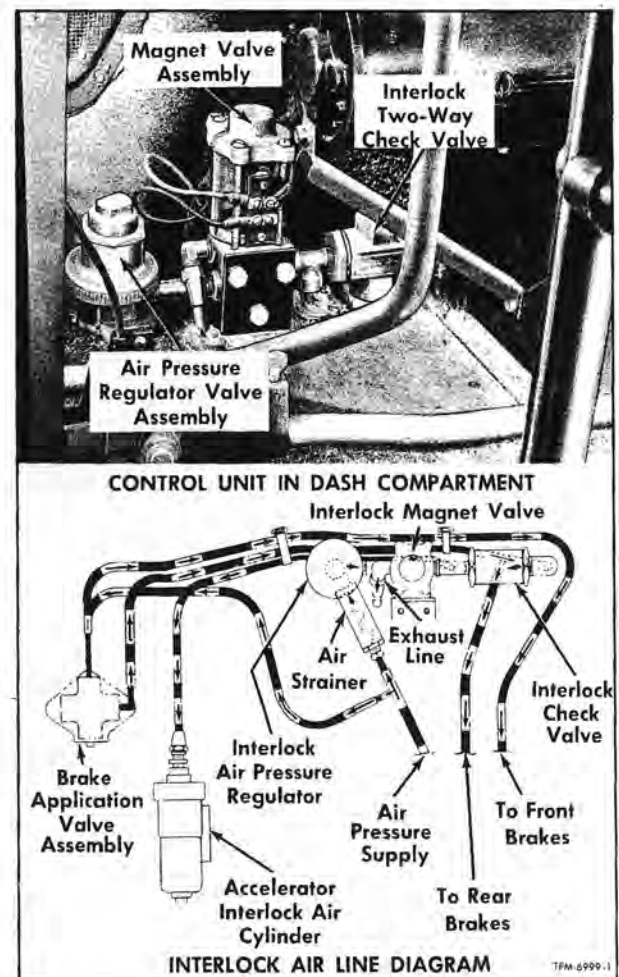
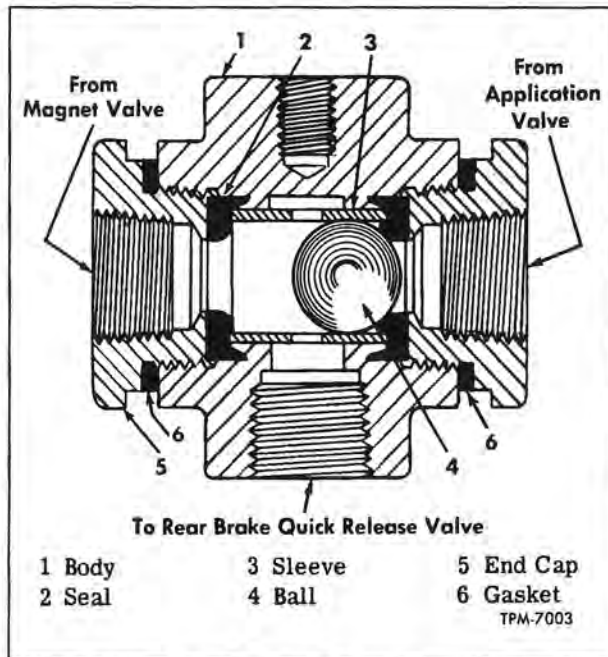
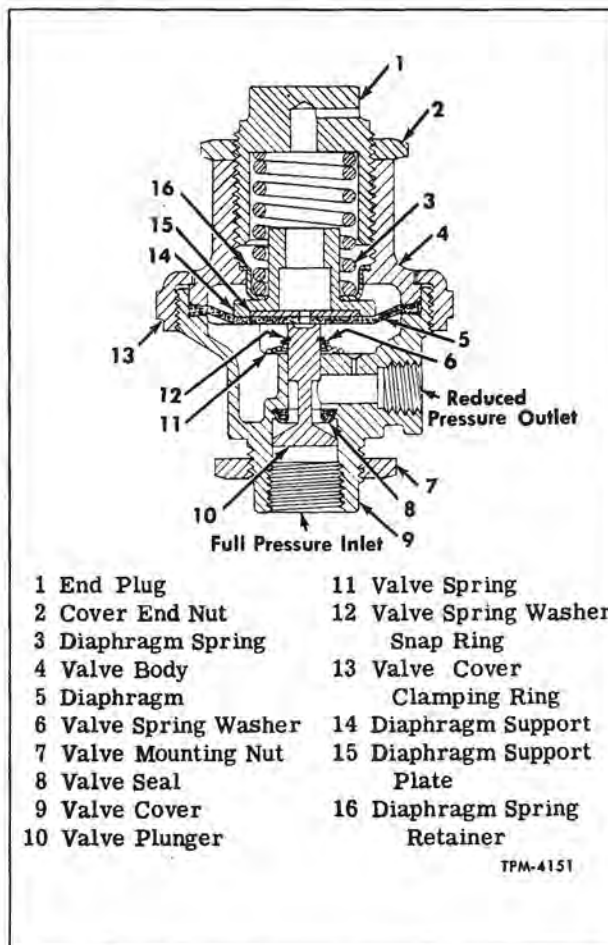
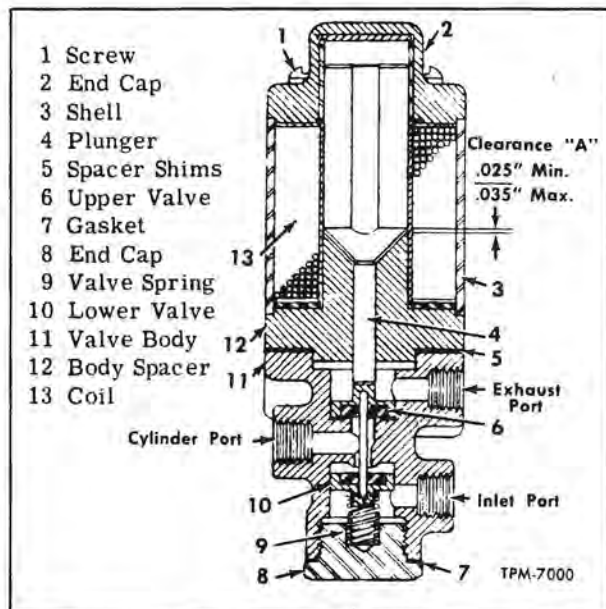

Figure 14—Brake Interlock Mechanism and Air Lines
Figure 15—Brake Interlock Double Check Valve
Figure 16—Brake Interlock Air Pressure Regulator Valve
Figure 17—Brake Interlock Magnetic Air Valve
The brake interlock consists of door switches and wiring, air strainer, pressure regulating valve, interlock magnet valve, and double check valve (fig. 14).
Brake interlock double check valve (fig. 15) is installed in air system as shown in figures 25, 26, and 27. Purpose of valve is to direct flow of air pressure from either brake application valve or brake interlock magnet valve into air line leading to rear brake valve. Figure 14 shows valve installed in dash compartment.
### OPERATION (Fig. 15)
### TEST (Fig. 15)
**DOORS AND CONTROLS****DISASSEMBLY (Fig. 15)**
**INSPECTION (Fig. 15)**
**ASSEMBLY (Fig. 15)**
Brake interlock air pressure regulator (fig. 16) is mounted in dash compartment as shown in figure 14.
**NOTE:** Key numbers in text refer to figure 16.
2. Loosen cover end nut (2) and turn end plug (1) until correct pressure registers on gauge. If pressure is not correct when check is started, inspect diaphragm (5), and replace as instructed later under "Replacement of Diaphragm."
2. Turn valve cover clamping ring (13) until regulator assembly is separated.
3. The diaphragm (5) is then exposed. Diaphragm support (14) and plate (15) are loose.
5. Insert the support (14) into spring. Position support plate (15) over diaphragm.
6. Insert valve body (4) through valve cover clamping ring (13). Screw clamping ring over body. Turn firmly. Reconnect full pressure line and make reduced pressure check.
**NOTE:** Refer to figure 14.
Key numbers in text refer to figure 16.
Brake interlock magnet valve (fig. 17) is mounted on floor in dash compartment (fig. 14). Actuated by door control valve switch through the switch in compartment above doors, valve applies air pressure to rear brakes and accelerator air cylinder. Purpose of valve is to prevent movement of coach when doors are opened or unlocked. Schematic position of magnet valve in system is shown in figures 25, 26, and 27.
### DISASSEMBLY (Fig. 17)
### ASSEMBLY (Fig. 17)